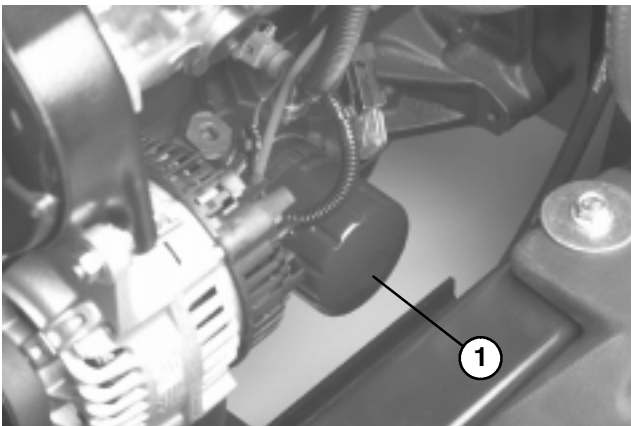

Figure 24
2. Remove oil filter (Fig. 24). Apply a light coat of clean oil to the new filter seal before screwing it on. DO NOT OVER–TIGHTEN.